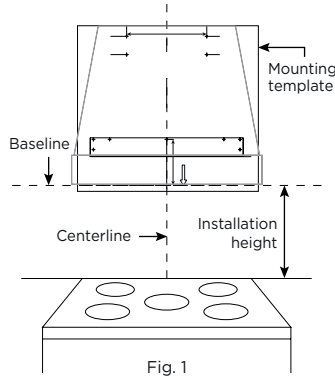

Fig. 1
1. Determine installation height (consult hood installation manual) and draw a horizontal line (baseline) on the wall at the required height (Fig. 1). -30" for gas ranges. -24" for electric ranges